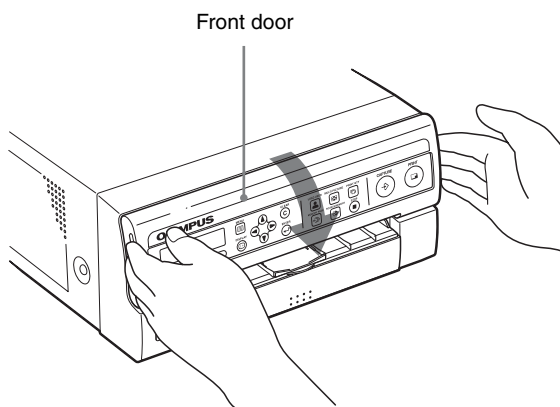

Figure 3.2
- 1 Open the front door by flipping it downward from the top edge (see Figure 3.2).